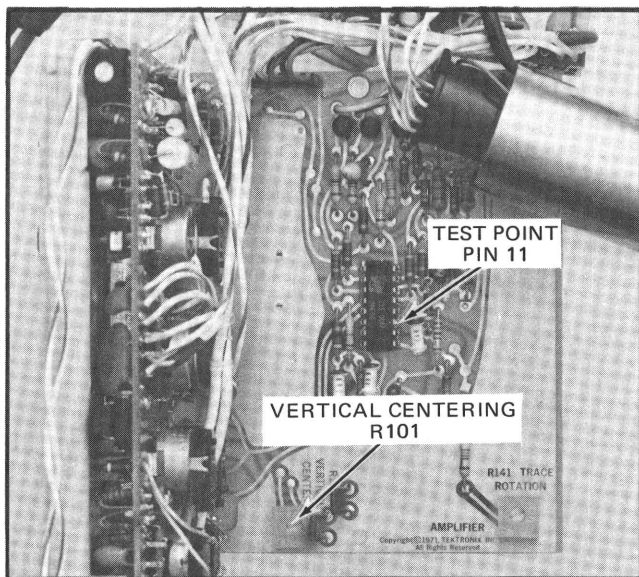

Fig. 4-6. Location of Vertical Centering adjustment and test point.
a. Connect the DC Voltmeter between pin 11 of U105, on the Amplifier (A-2) board, (positive meter lead to pin 11) and ground. See Fig. 4-6.
d. ADJUST—Vertical Centering, R101 (see Fig. 4-6) to position the trace to the center horizontal graticule line.